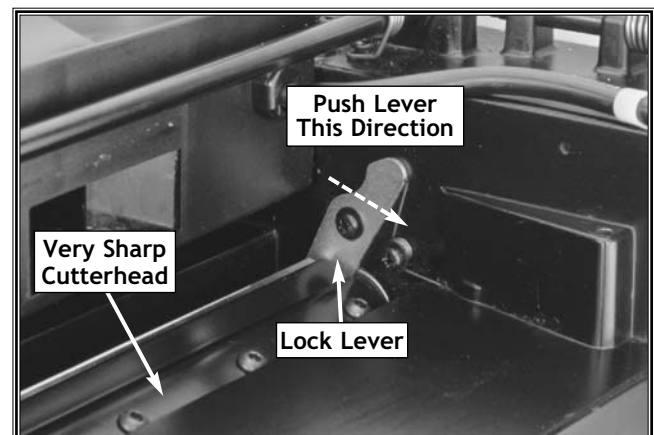

Figure 23. Push the cutterhead lock lever.
8. Press the lock lever and rotate the cutterhead pulley until the cutterhead locks into position. See **Figure 23**.